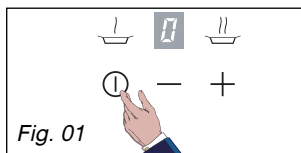

Fig. 01
— **Select** the burner that you wish to use by placing your finger squarely on the corresponding touch control ① (fig. 01).